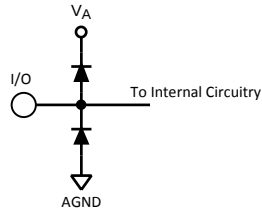

Figure 2.
- (1) The inputs are protected as shown below. Input voltage magnitudes above V_A or below GND will not damage this device, provided current is limited per Note 4 of the Absolute Maximum Ratings Table. However, errors in the A/D conversion can occur if the input goes above V_A or below GND by more than 100 mV. As an example, if V_A is +3.3V, the full-scale input voltage must be $\leq +3.4V$ to ensure accurate conversions. See Figure 2.
- (2) To ensure accuracy, it is required that $|V_A - V_D| \leq 100\text{ mV}$ and separate bypass capacitors are used at each power supply pin.
- (3) With the test condition for $V_{REF} = +1.0V$ (2V_{P-P} differential input), the 12-bit LSB is 488 μV .
- (4) Typical figures are at $T_J = 25^\circ\text{C}$, and represent most likely parametric norms. Test limits are to AOQL (Average Outgoing Quality Level).
- (5) Integral Non Linearity is defined as the deviation of the analog value, expressed in LSBs, from the straight line that passes through positive and negative full-scale.
- (6) Optimum performance will be obtained by keeping the reference input in the 0.8V to 1.2V range. The LM4051CIM3-ADJ (SOT-23 package) is recommended for external reference applications.
- (7) This parameter is specified in units of dBFS - indicating the equivalent value that would be attained with a full-scale input signal
- (1) The inputs are protected as shown below. Input voltage magnitudes above V_A or below GND will not damage this device, provided current is limited per Note 4 of the Absolute Maximum Ratings Table. However, errors in the A/D conversion can occur if the input goes above V_A or below GND by more than 100 mV. As an example, if V_A is +3.3V, the full-scale input voltage must be ≤+3.4V to ensure accurate conversions. See Figure 2.
- (3) With the test condition for $V_{REF} = +1.0V$ (2V_{P-P} differential input), the 12-bit LSB is 488 μV.
(1) The inputs are protected as shown below. Input voltage magnitudes above V_A or below GND will not damage this device, provided current is limited per Note 4 of the Absolute Maximum Ratings Table. However, errors in the A/D conversion can occur if the input goes above V_A or below GND by more than 100 mV. As an example, if V_A is +3.3V, the full-scale input voltage must be $\leq +3.4V$ to ensure accurate conversions. See Figure 2.
(2) To ensure accuracy, it is required that $|V_A - V_D| \leq 100\text{ mV}$ and separate bypass capacitors are used at each power supply pin.
(3) With the test condition for $V_{REF} = +1.0V$ (2V_{P-P} differential input), the 12-bit LSB is 488 μV .
(4) Timing specifications are tested at TTL logic levels, $V_{IL} = 0.4V$ for a falling edge and $V_{IH} = 2.4V$ for a rising edge.
(5) Typical figures are at $T_J = 25^\circ C$, and represent most likely parametric norms. Test limits are to AOQL (Average Outgoing Quality Level).
(6) This parameter is ensured by design and/or characterization and is not tested in production.